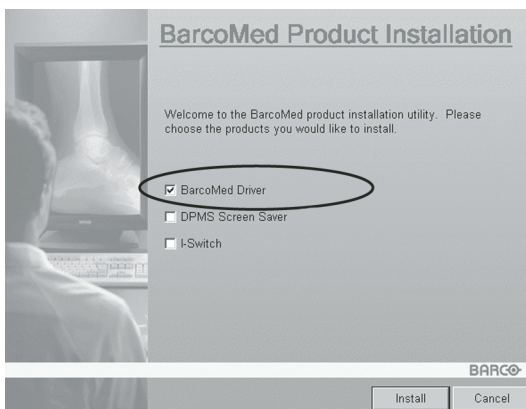

Figure 50
3. To update the driver, clear the checkbox next to **“DPMS Screen Saver”** and **“I-Switch”** (figure 50) and click **“Install”**.